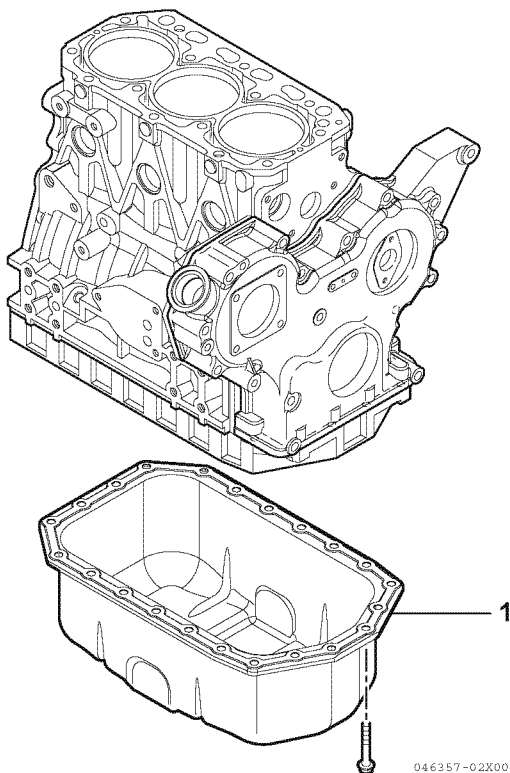

Figure 6-100
2. Apply a continuous bead of ThreeBond Liquid Gasket No. 1207F, YANMAR Part No. 977770-1207F to the mounting surface of the oil pan (1, **Figure 6-100**). Be sure to circle each bolt hole.